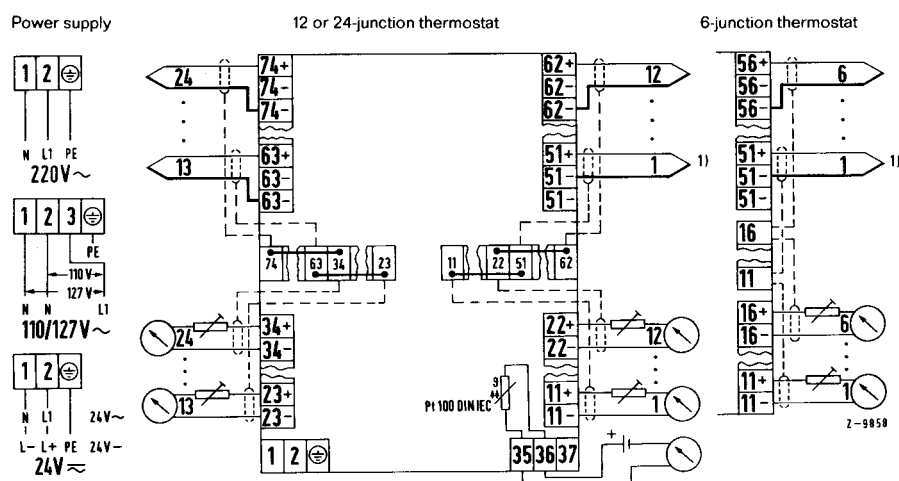

Fig. 5 Terminal connection diagram
**Reference junction thermocouples** for thermocouple type L (Fe-CuNi) DIN 43 710 and type K (NiCr-Ni) DIN IEC 584 are constructed as a combination with a common positive lead. Fig. 5, for example, shows at measuring points 1 and 6 the different connection of the extension lead wires for type L (Fe-CuNi) DIN 43 710 and type K (NiCr-Ni) DIN IEC 584. Extension lead wires of thermocouples type U (Cu-CuNi) DIN 43 710 or type S (Pt10Rh-Pt) DIN IEC 584 are to be connected as shown in the example for measuring point (6) 12.
When selecting the line material, care must be taken to ensure that with Pg cable glands the requirements of degree of protection of case IP 54 are still met. The lines are connected at screw terminals for up to max. 2.5 mm2. Correct polarity – shown in Fig. 5 – must be observed without fail.